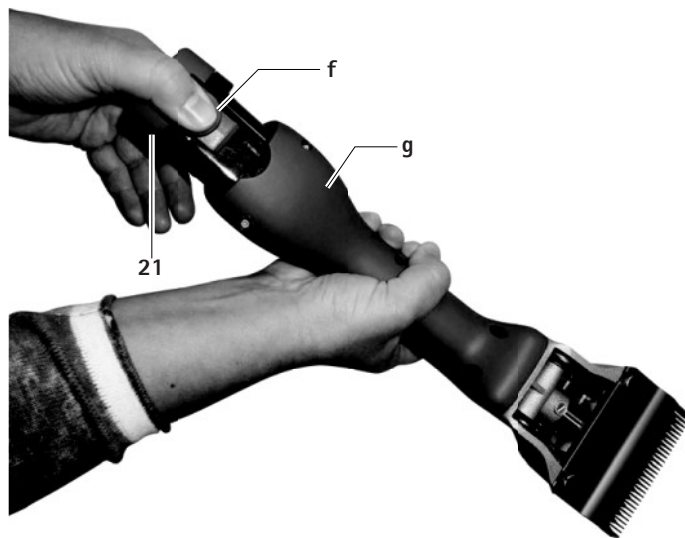

Fig. 1
- Hold the battery-operated clipping machine **g** with the cutter head downwards so that the lithium ion battery 21 does not fall down when loosened, see Fig. 1.